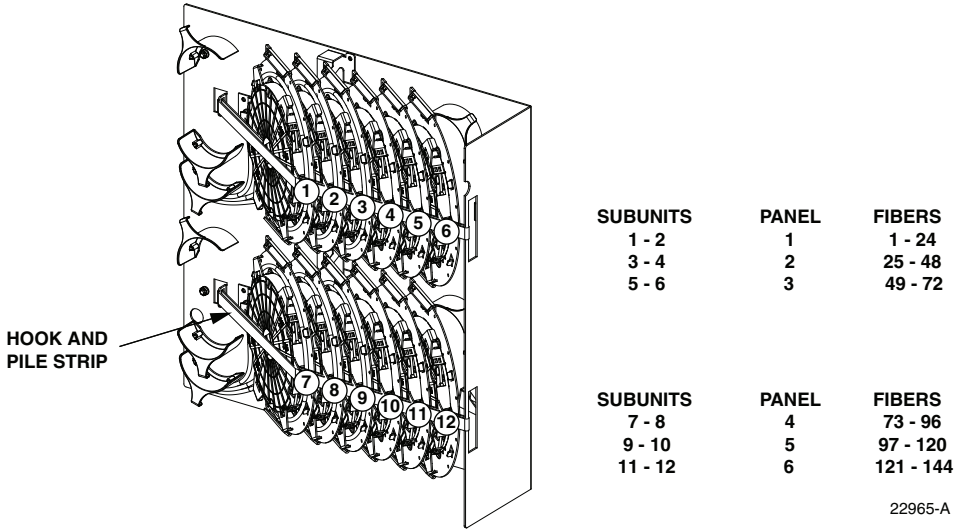

Figure 33. Distribution Splice Wheel Assembly
3. Refer to Figure 33 to identify and locate the splice wheels for distribution panel #1.